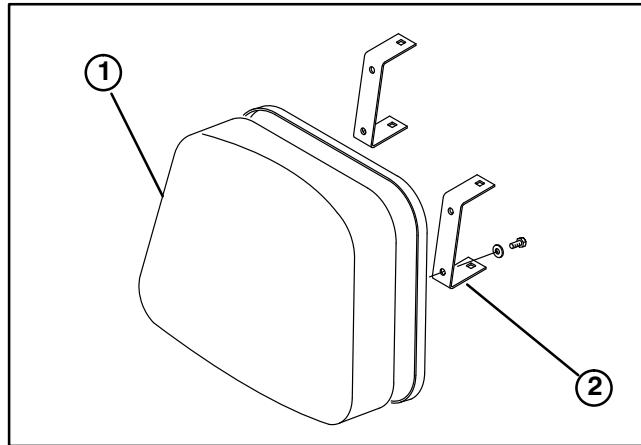

Figure 5
INSTALL SEAT BACK CUSHIONS, MANUAL TUBE AND BED SUPPORT (Fig. 5 – 6)
1. Mount (2) seat back brackets to each seat back cushion with (4) 1/4–20 x 3/4" lg. capscrews and 1/4" flat washers. Position brackets on seat back cushions as shown in figure 5.